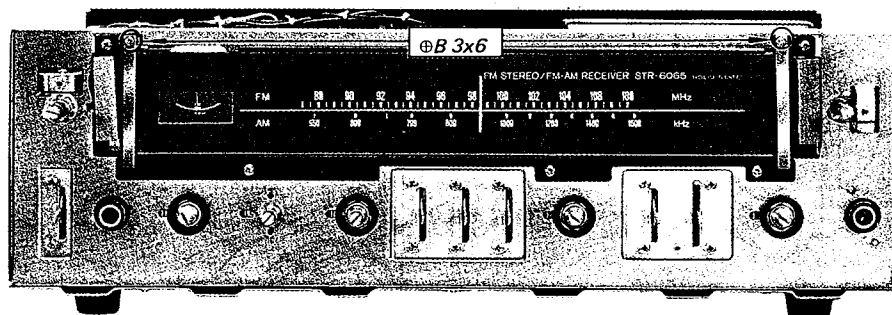

Fig. 2-12. Dial scale removal
3. Remove the two self-tapping screws ( $\text{Ø} B 3 \times 6$ ) securing the dial-scale holder to the front sub-chassis as shown in Fig. 2-12.